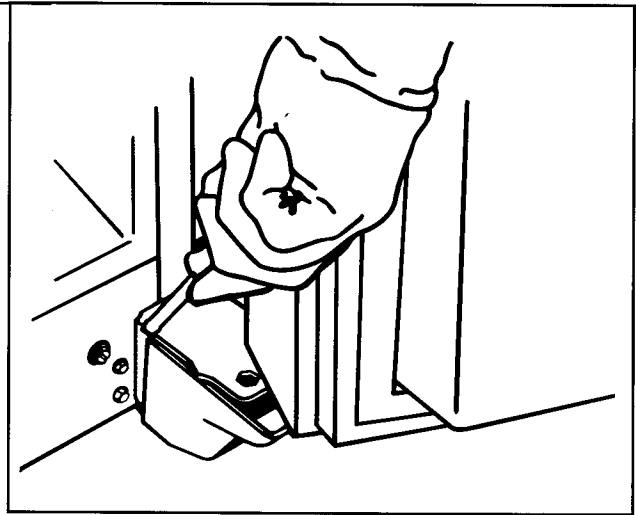

Figure 37
- a. Remove lower hinge cover. See Figure 37.